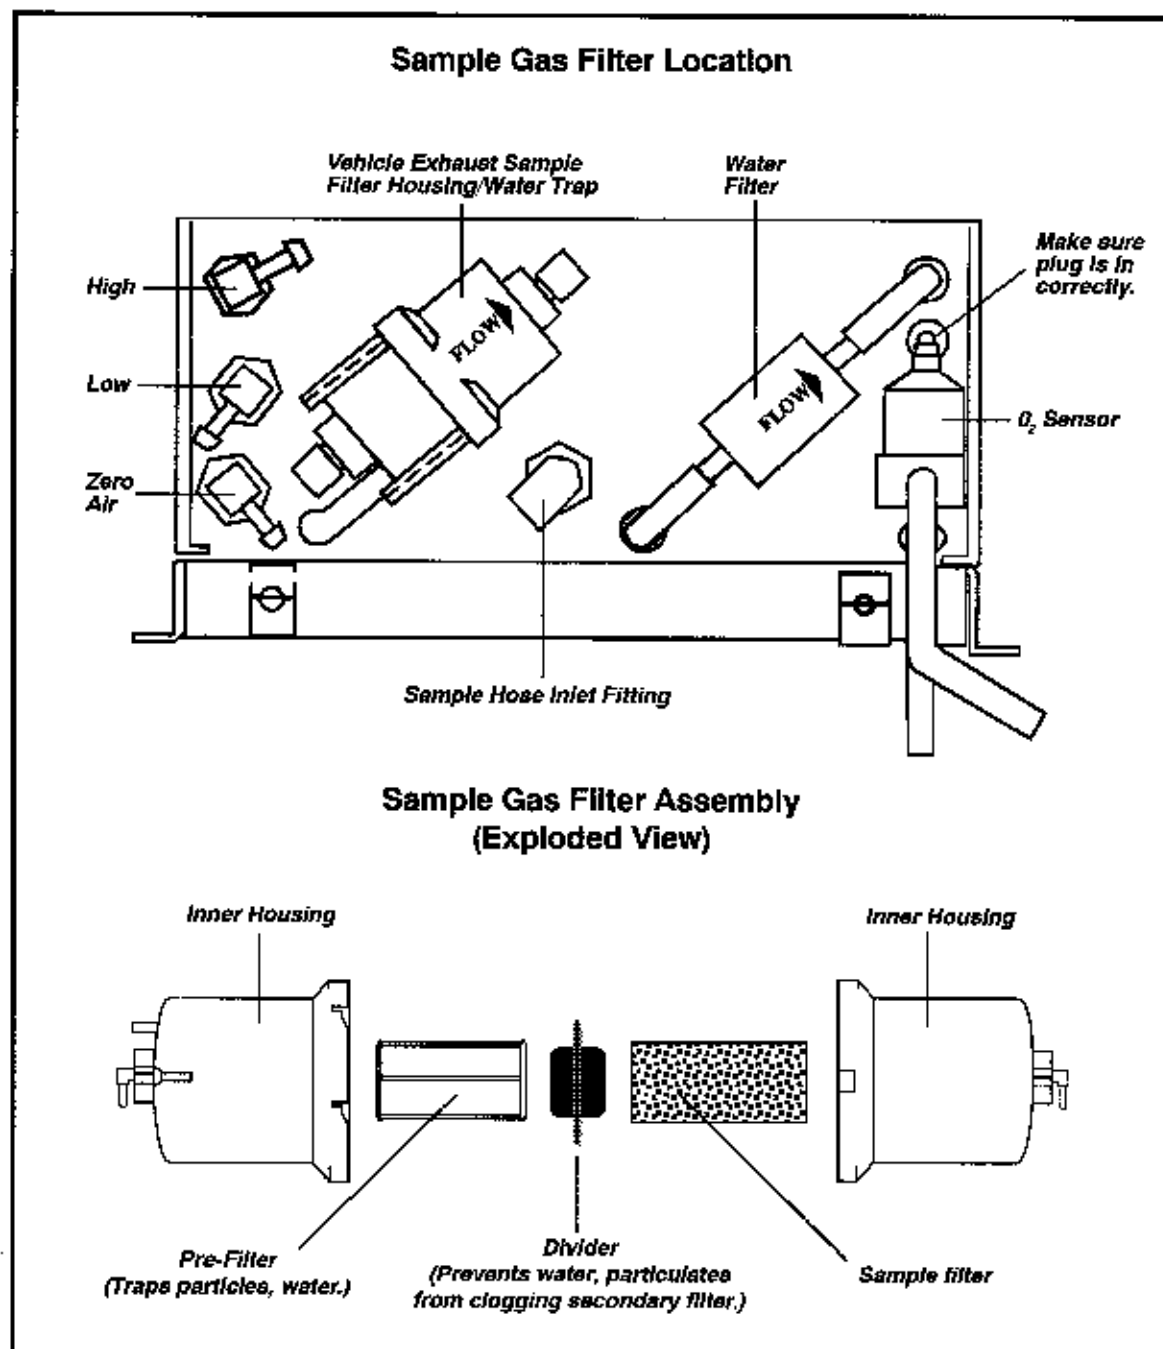

Figure 6-2
1. Carefully pull the filter housing out of the clips on the front of the gas analyzer bench (see Figure 6-2).
The in-line water filter shown in Figure 6-2 removes dirt from the condensed water. This filter should be replaced every three (3) to six (6) months, depending on amount of use.